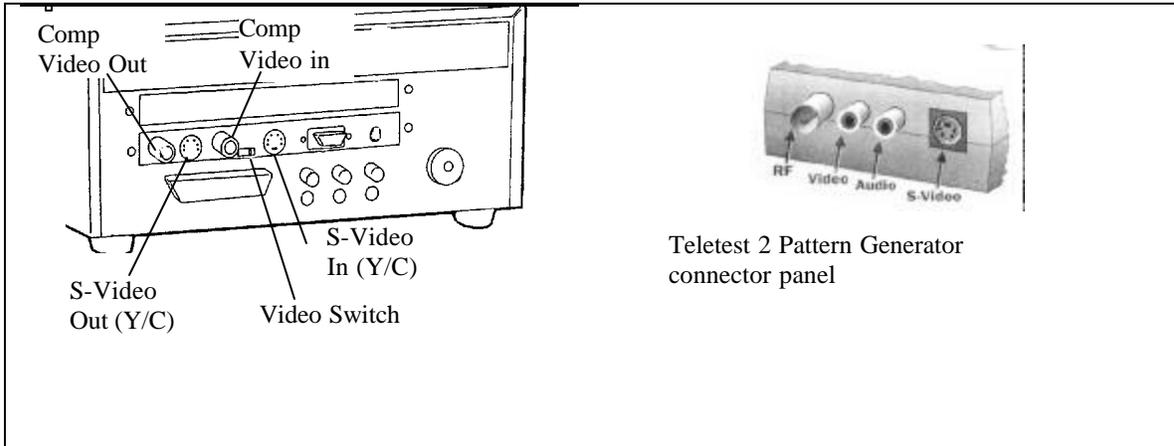

Figure 3-18 S-Video Connectors
6. Run a composite video cable from the Video (composite video) socket on the Teletest 2 pattern generator to the Video In connector on the printer. Refer again to Figure 3-18.